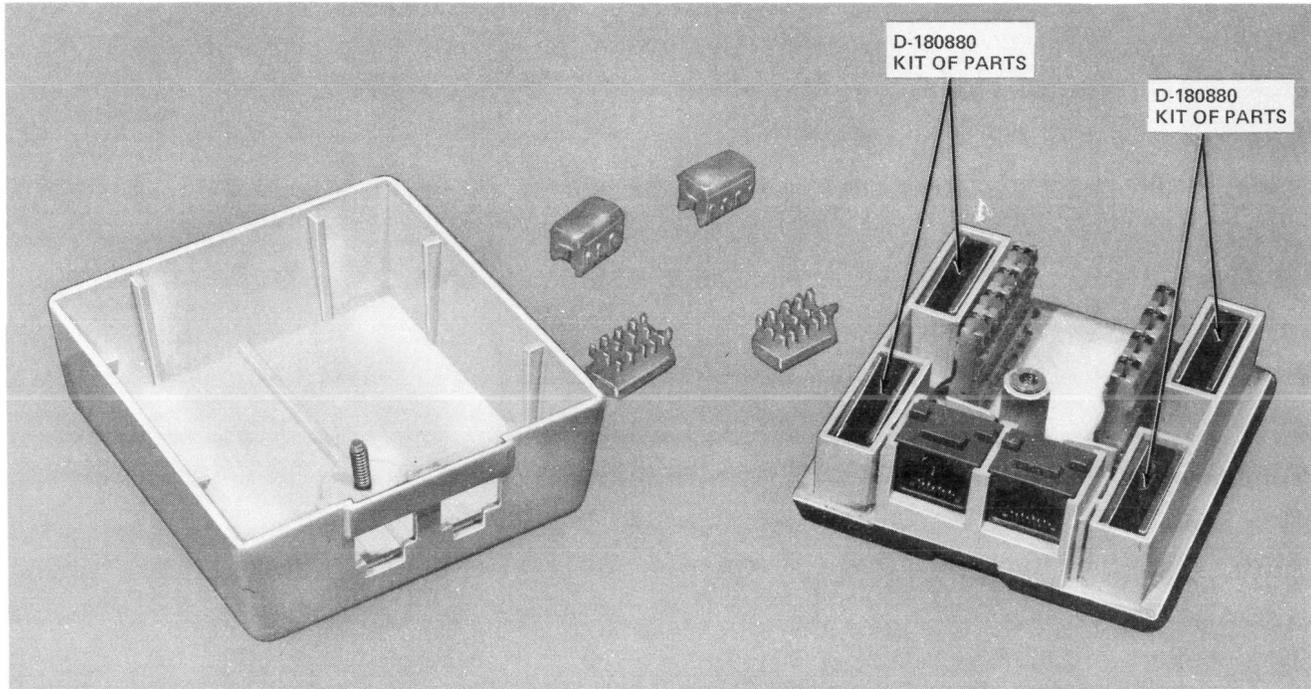

Fig. 10— 104A Connecting Block
2.09 This connecting block (Fig. 10) is used to connect two telephone sets or terminals to the